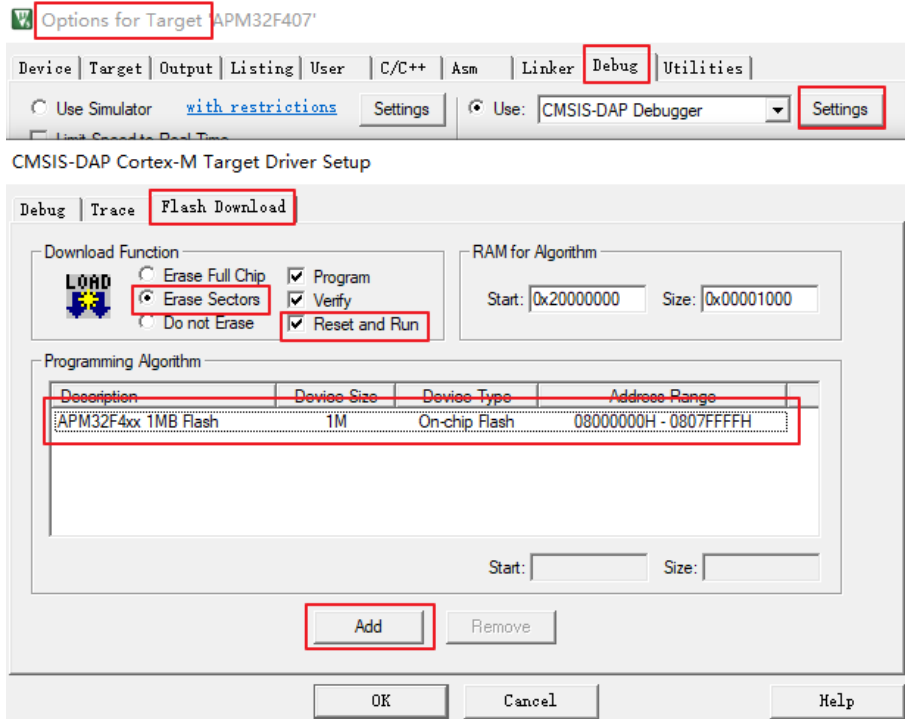

Figure 9
- d) As shown in Figure 9, select the Flash Download tab and Erase Sectors. If you select Full Sectors, the erasing process will be slow. Check Reset and Run at the same time, so that the program can run automatically after downloading, not needing manual resetting. Finally, select in the "Programming Algorithm" interface according to the actual model, and click "OK".